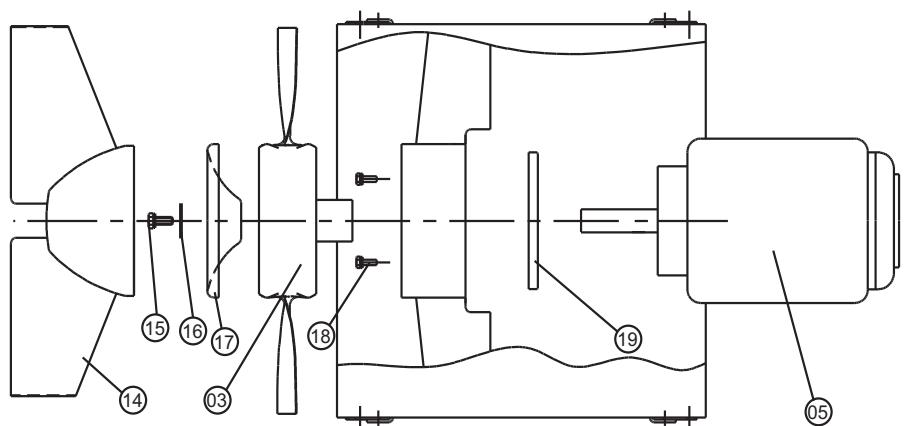

Figure 3. Dismounting/Mounting of motor
- 4 **ARR:** Remove screws in guide plates of centre fairing and pull out centre fairing figure 3, item 14.
- 5 Remove centre screw of impeller item 15 and centre disc figure 3, item 16.
- 6 **AUR:** Remove hub cover figure 3, item 17.
- 7 Dismount impeller figure 3, item 03 by means of a puller fastened in the two threaded holes of the hub boss.
- 8 Remove 4 set screws figure 3, item 18.
- 9 Dismount motor item 05 and motor flange figure 3, item 19. Note the placing of the motor prior to dismantling. When dismantling and disassembling the fan be careful not to expose the individual parts to shocks etc. likely to damage the motor bearings or other fan components.
- 1 After servicing remount the motor figure 3, item 05, see that the motor flange item 19 is correctly located and that the motor shaft is concentrically placed in the fan casing before tightening the set screws item 18.
- 2 Mount the impeller figure 3, item 03 on the motor shaft by means of screws fastened in the threaded hole of the motor shaft. Fix the impeller hub to rest against the motor shaft collar. Check that the blade clearance is the same throughout the circumference of the casing. If this is not the case, adjust the motor location in the mounting frame arrangement.
- 3 Mount centre screw figure 3, item 15, centre disc item 16.
- 4 **ARR:** Mount the centre fairing figure 3, item 14.